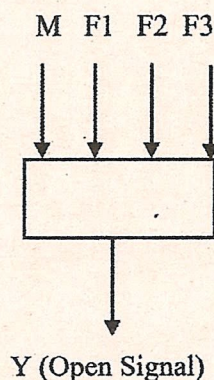

Figure 1
- II. An elevator is used for transportation between three floors (F1, F2, F3) in a three storied building. A logic circuit is used to control the operation of elevator door. The circuit has **four Boolean inputs and one output** as shown in Figure 1. Description of each input and output are given below.